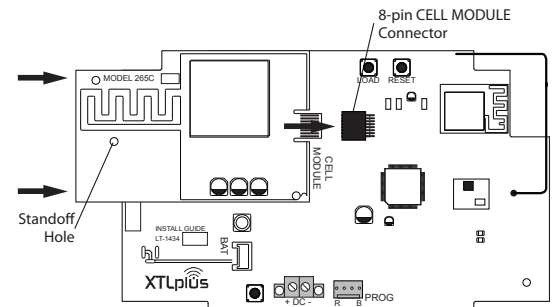

Figure 2: 265C Installation on the XTLplus
1. Avoiding a sharp angle and keeping the 265C PCB parallel to the XTLplus PCB, slide the 265C PCB into the XTLplus 8-pin CELL MODULE connector. Apply even pressure to the end of the 265C PCB to fully seat the communicator. See Figure 2.